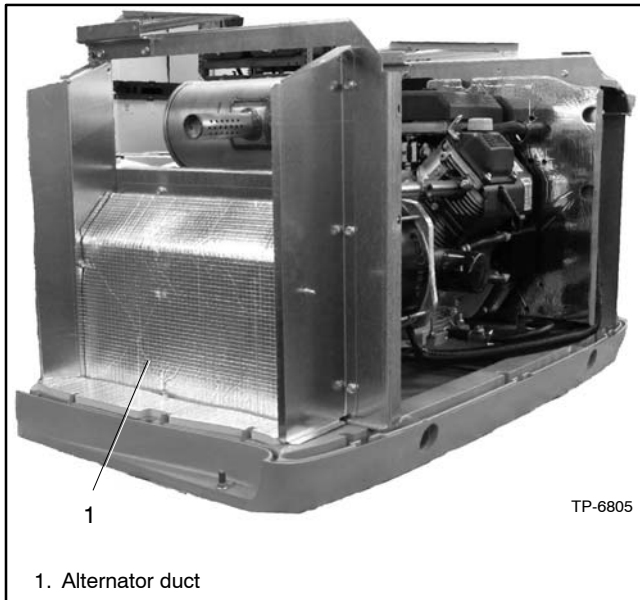

Figure 7-35 Alternator Duct, RESA(L)/RESC(L)
7.3.3 Reinstall Enclosure, 14/20RESA(L) and 20RESC(L)
9. Reinstall the alternator duct panels shown in Figure 7-35.